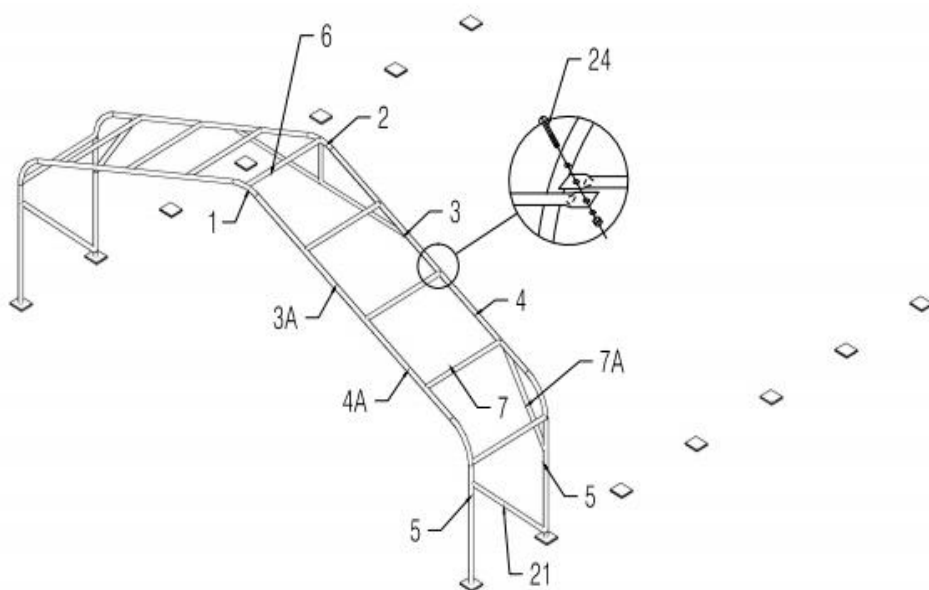

Figure 3
3. **Figure 3** shown when finish installing the first two arches into the base plates, Use top beam (No.6) & Purlin (No.7) to connect them together, the Top Beam (No.6) should insert into the Three way fittings (No.1) & Four way fitting(No.2) by Carriage bolt M8x70 (No.23A). The purlin (No.7) is connecting by the Carriage bolt M12x100 (No.24).